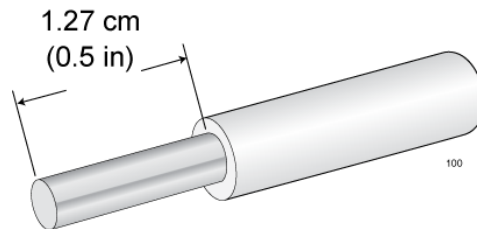

Figure 46. Stripping the Grounding Wire
1. Prepare an adequate length of stranded grounding wire (10 AWG) for the ground connection by stripping it as shown in Figure 46.